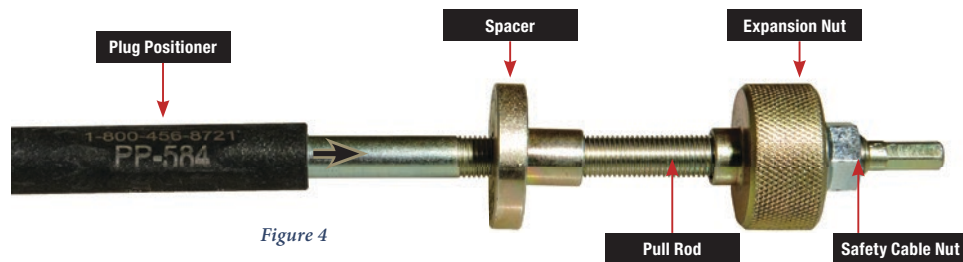

Figure 4
- The *Pull Rod Assembly* must contain the following components shown in *Figure 4*.
- j) Remove the *Safety Cable Nut* and insert the *Pull Rod* through the loop of the *Safety Cable* then reinstall the *Safety Cable Nut* by fully threading and making finger tight. **DO NOT FORGET TO ASSEMBLE THE SAFETY CABLE & NUT.** See Figure 4 for proper *Ram* and *Pull Rod Assembly*.